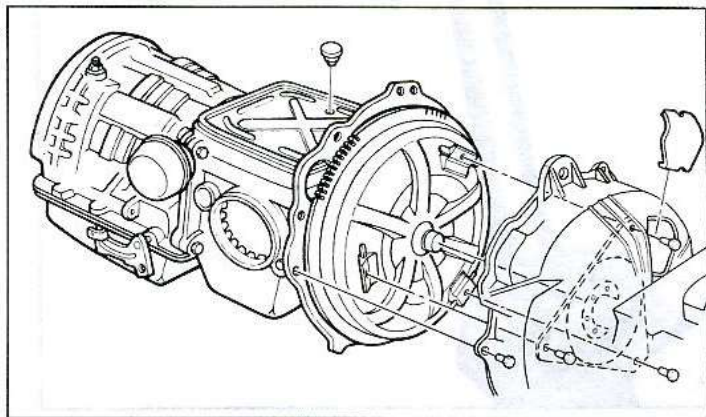

Fig. 48—Transaxle Separated from Engine
- d. Disconnect the converter from the engine flex plate by removing the three attaching bolts through the access hole at the 12 o'clock position in the converter housing (fig. 48). The converter can be rotated by prying against the starter gear teeth on the converter housing with a screw driver.